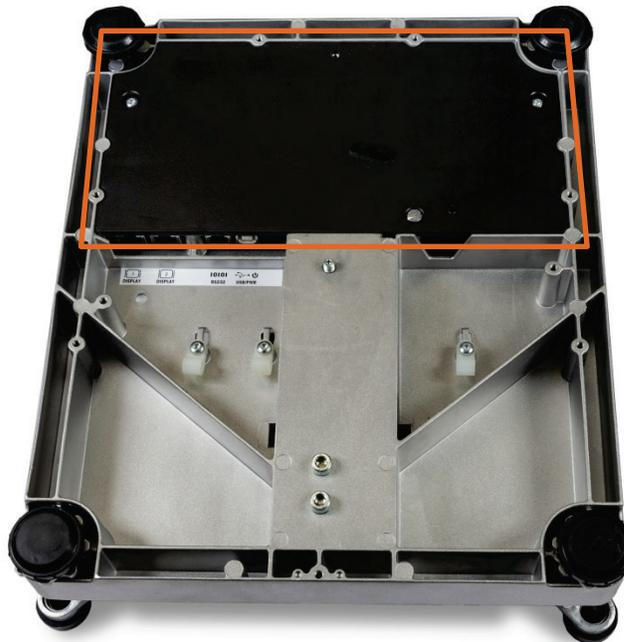

Figure 5-9: PCB Cover In Place
6. Remove the PCB cover, shown outlined in Figure 5-9. If there is a metrology lock seal, it must be broken. Note the scale connectors that are attached to the PCB.
5. Turn scale over. Remove the PCB cover (Figure 5-9). If there is a metrology lock seal, it must be broken. Note the scale load cell connector is attached to the PCB.